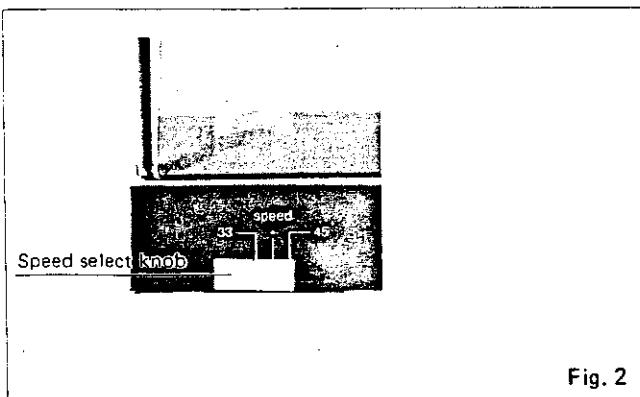

Fig. 2
2. Set the speed select knob to the desired record speed. (See Fig. 2)